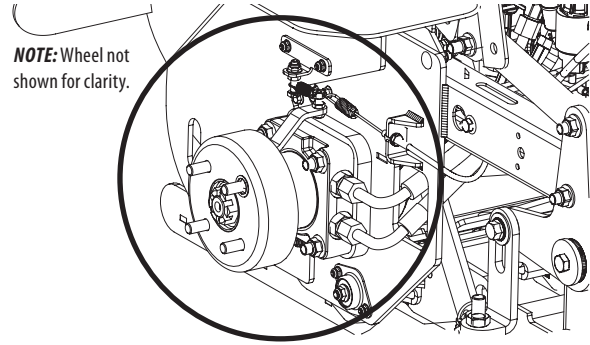

Figure 13
- Clean around and near the transmission, axle and the fan area (Figure 13).